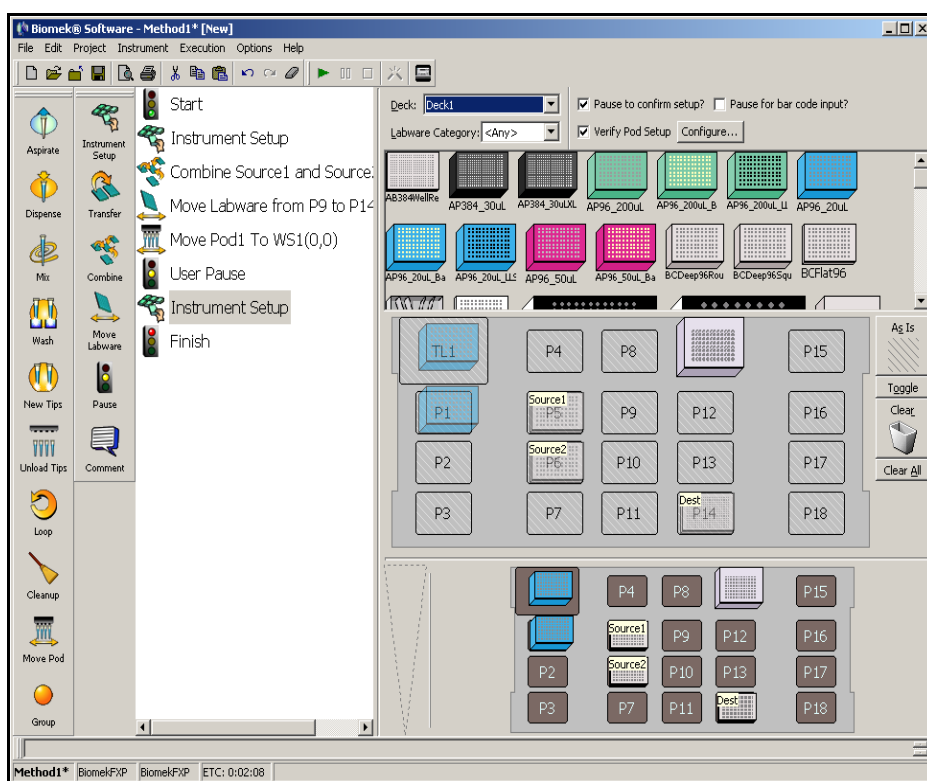

Figure 2-13. Adding an Instrument Setup step and toggling all deck positions As Is
2. Choose **Toggle** under the **As Is** square. This lets the software know that all deck positions are to remain as they are. The main editor should now look like Figure 2-13.